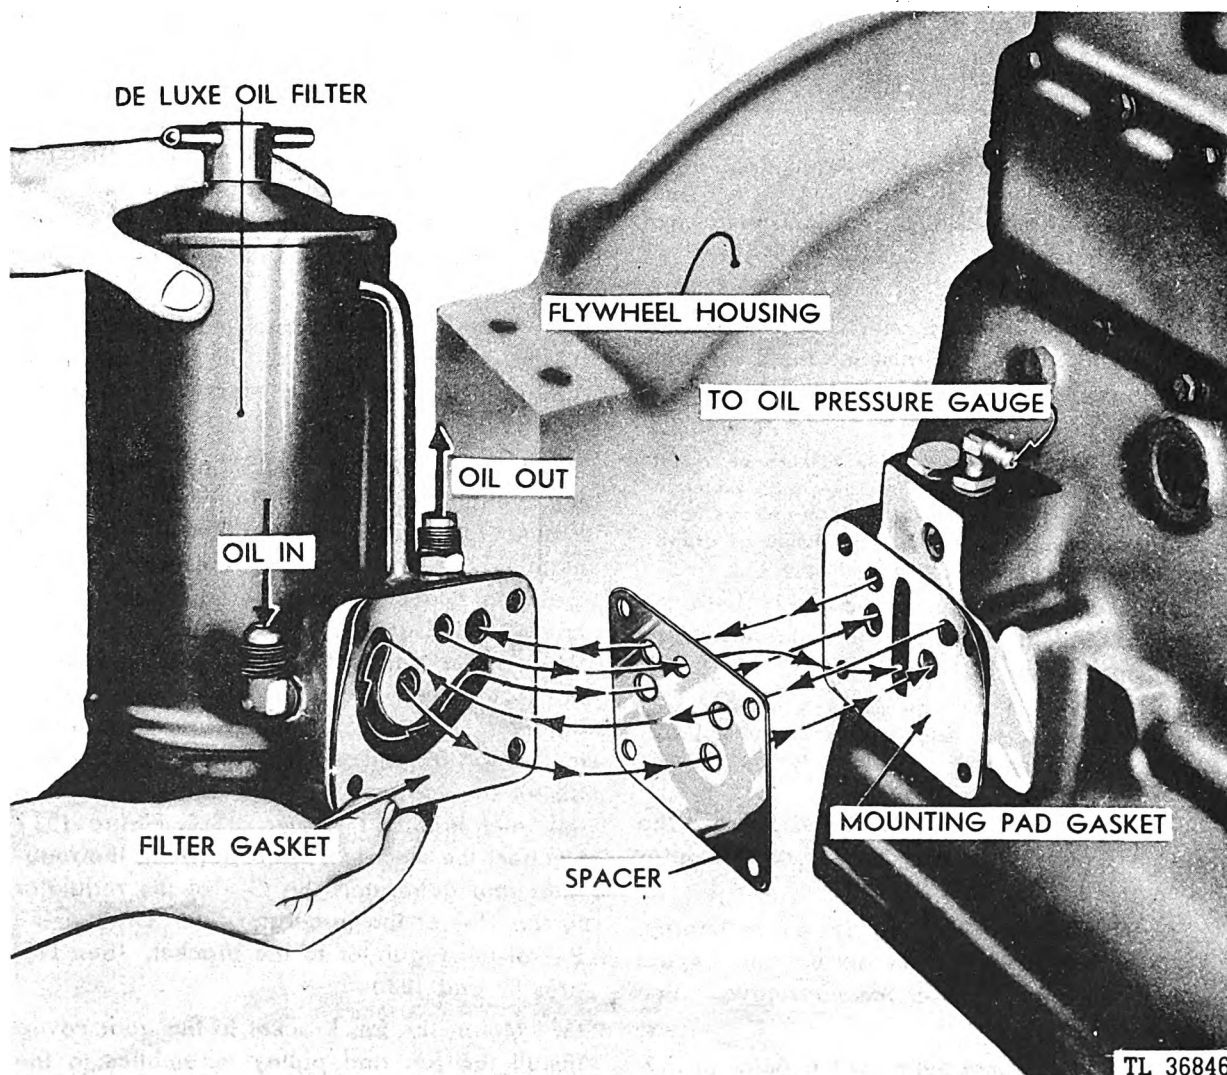

Fig. 194. Installing DeLuxe Oil Filter
(2) Install the DeLuxe oil filter to the crankcase mounting pad as shown in Figure 194.
(3) Connect the oil pressure lines between